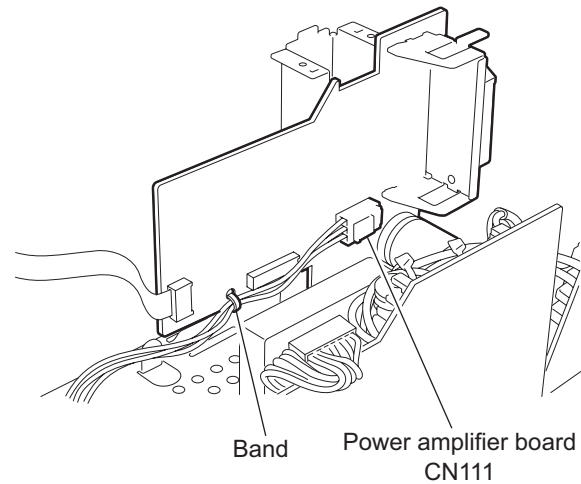

Fig.28
2.1.12 Removiing the power amplifier board (See Fig.28, 29)